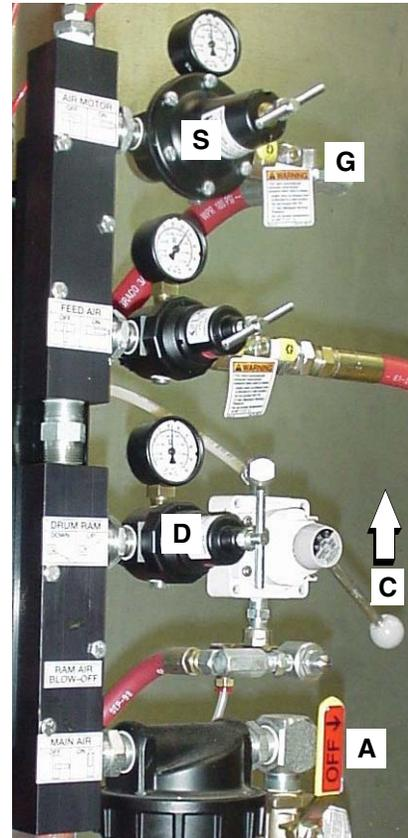
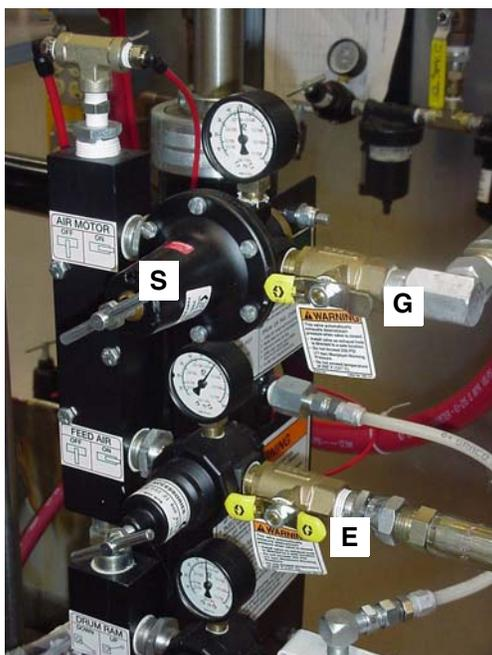

FIG. 9
FIG. 13
2. Open the main air supply shutoff valve (A), FIG. 9.
3. Place the ram lever (C) in the UP position.
- Slowly open the main air motor shutoff valve (G), FIG. 9. Make sure the pump begins to cycle and material flows from the bleed valve (T) after several cycles of the pump, FIG. 12.
If the pump does not cycle, close the air shutoff valve (G), adjust the air motor regulator (S) up 5 psi (34 kPa, 0.3 bar) and repeat step 2, FIG. 9. Never adjust the regulator by more than 5 psi (34 kPa, 0.3 bar) increments, FIG. 13.
- Operate the pump until it moves smoothly in both directions with no air popping or erratic movement, then close the air motor shutoff valve (G), FIG. 9.
5. Make sure the air motor and catalyst feed air shutoff valves (G and E) are closed, FIG. 13.
9. Open the air motor shutoff valve (G) and continue pumping until clean material, with no air pockets, dispenses from the resin hose into the waste container, then close the shutoff valve, FIG. 13.